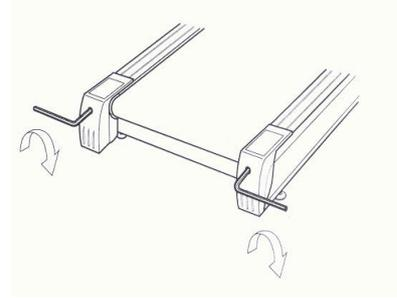

Figure 3
**3. Running belt is slipping during use (Figure 3)**